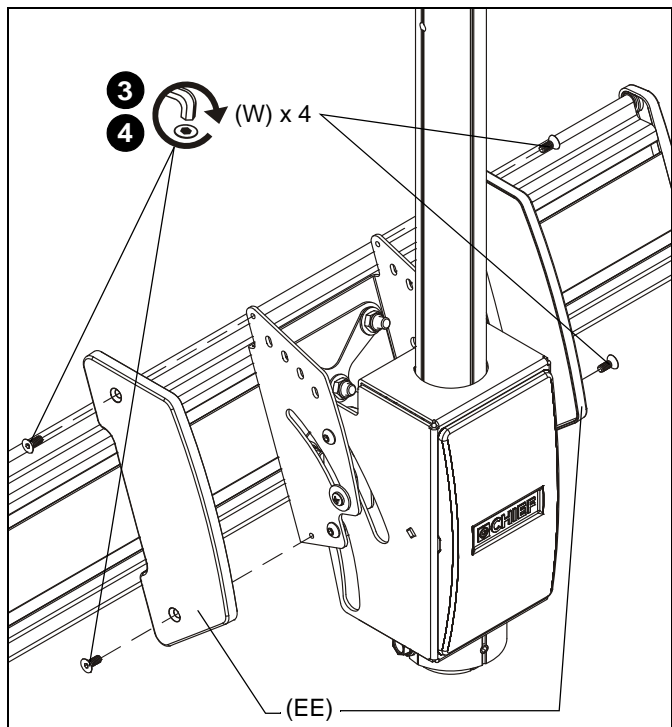

Figure 15
3. Install one side cover (EE) onto side of ceiling mount using two 10-24 x 1/2" flat head screws (W). (See Figure 15)